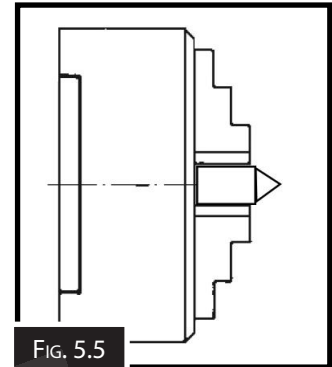

FIG. 5.5
2. Use the other piece of round stock to make a dead center, and turn it to a 60° point, as illustrated in the Fig. 5.5